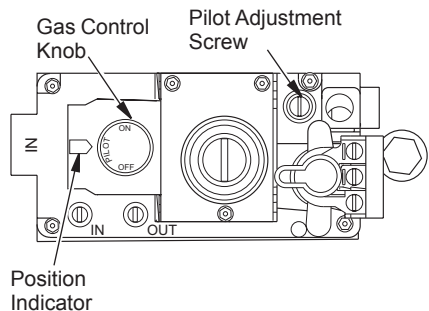

Figure 39 - Control Knob in the PILOT position
6. Turn gas control knob clockwise to the **OFF** position (see Figure 39).
7. Wait five (5) minutes to clear out any gas. Then smell for gas, including near the floor. If you smell gas, **STOP!** Follow "B" in the safety information above. If you don't smell gas, go to the next step.
9. Push in the knob all the way and hold in. Immediately light the pilot manually. Continue to hold the control knob in for about (1) minute after the pilot is lit. Release knob and it will pop back up. Pilot should remain lit. If it goes out, repeat steps 5 through 9.
- Turn the adjustment screw marked pilot clockwise to decrease or counterclockwise to increase the flame to proper size (see Figure 39, page 19). Do not remove the adjustment screw.